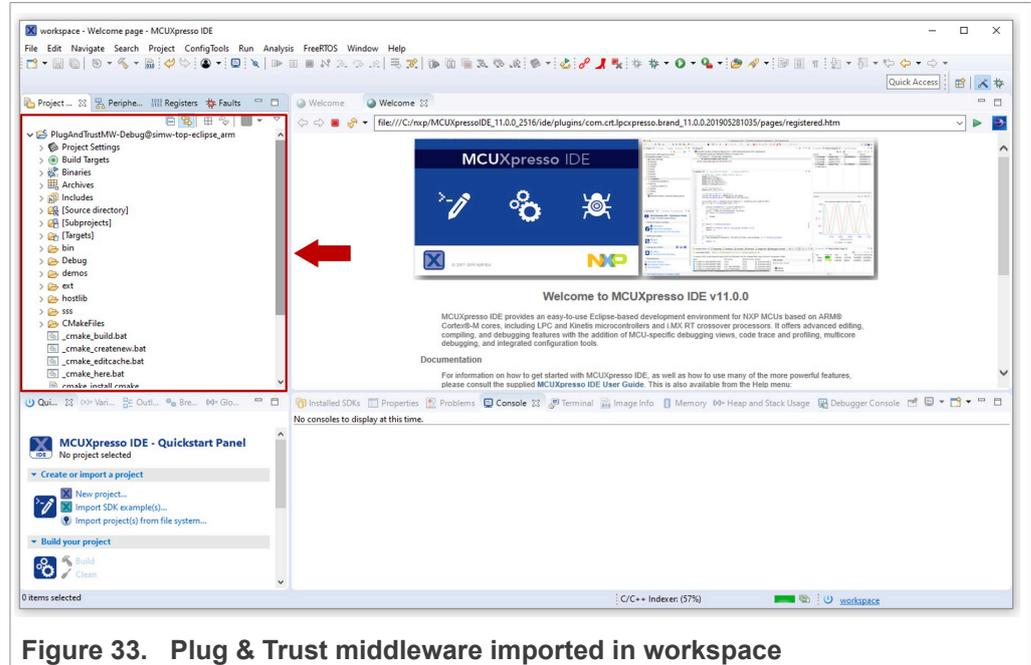

Figure 33. Plug & Trust middleware imported in workspace
- The *PlugAndTrustMW* project should now be imported in your workspace as shown in Figure 33: